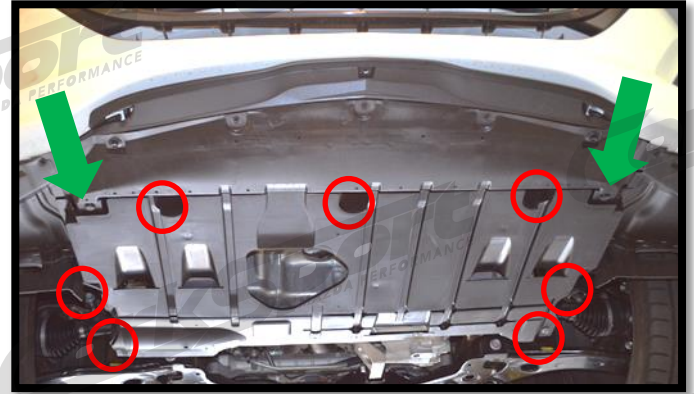

Figure 2m
- r) **Replace the splash tray.** Fasten it back into place with the seven (7) 10mm bolts and two (2) push clips (Figure 2m).
- r) **Replace the splash tray.** Fasten it back into place with the seven (7) 10mm bolts (red circles) and two (2) push clips (green arrows in Figure 2m).